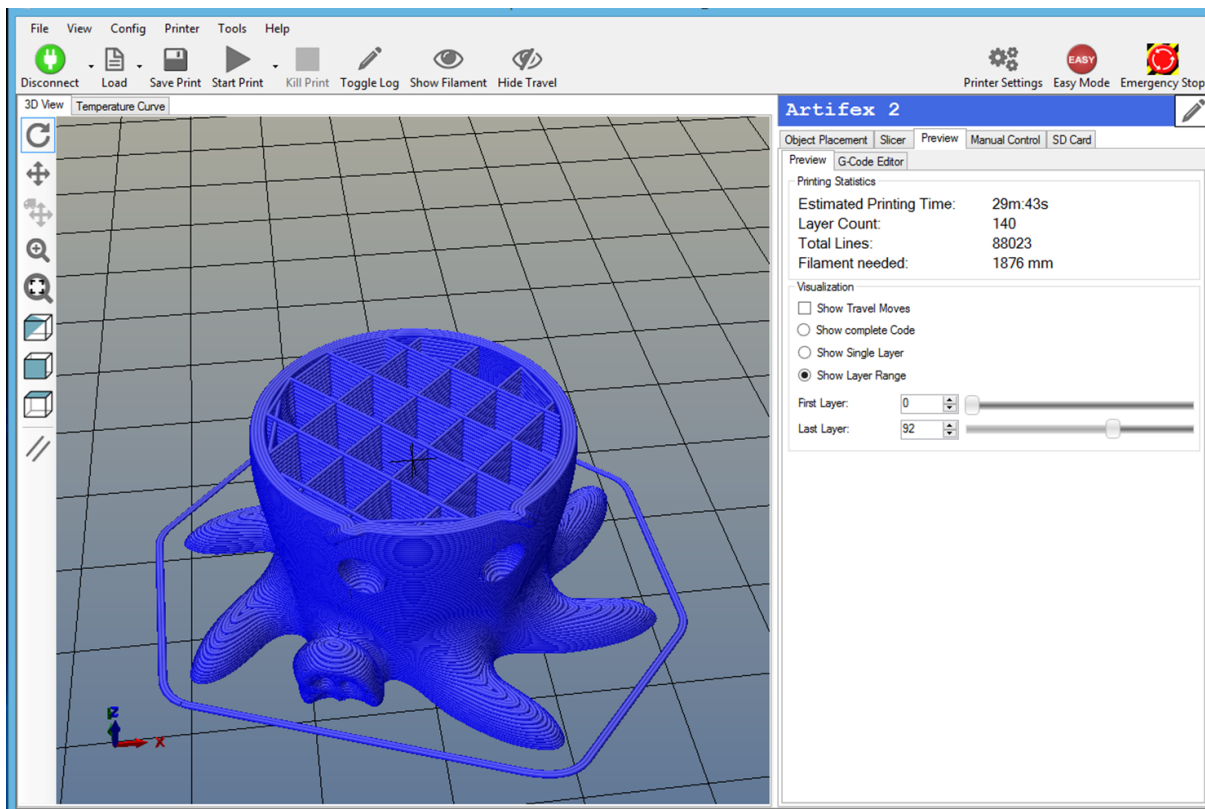

Figure 3.7: Previewing the model based on the generated G-code
- The Repetier-Host program provides an excellent capability to visualize the generated G-code of your 3D models. Figure 3.7 shows the model from layer 1 to layer 92. When configuring your own slicing settings, this visualization feature will become very handy to check the slicing result before sending the job to your 3D printer.